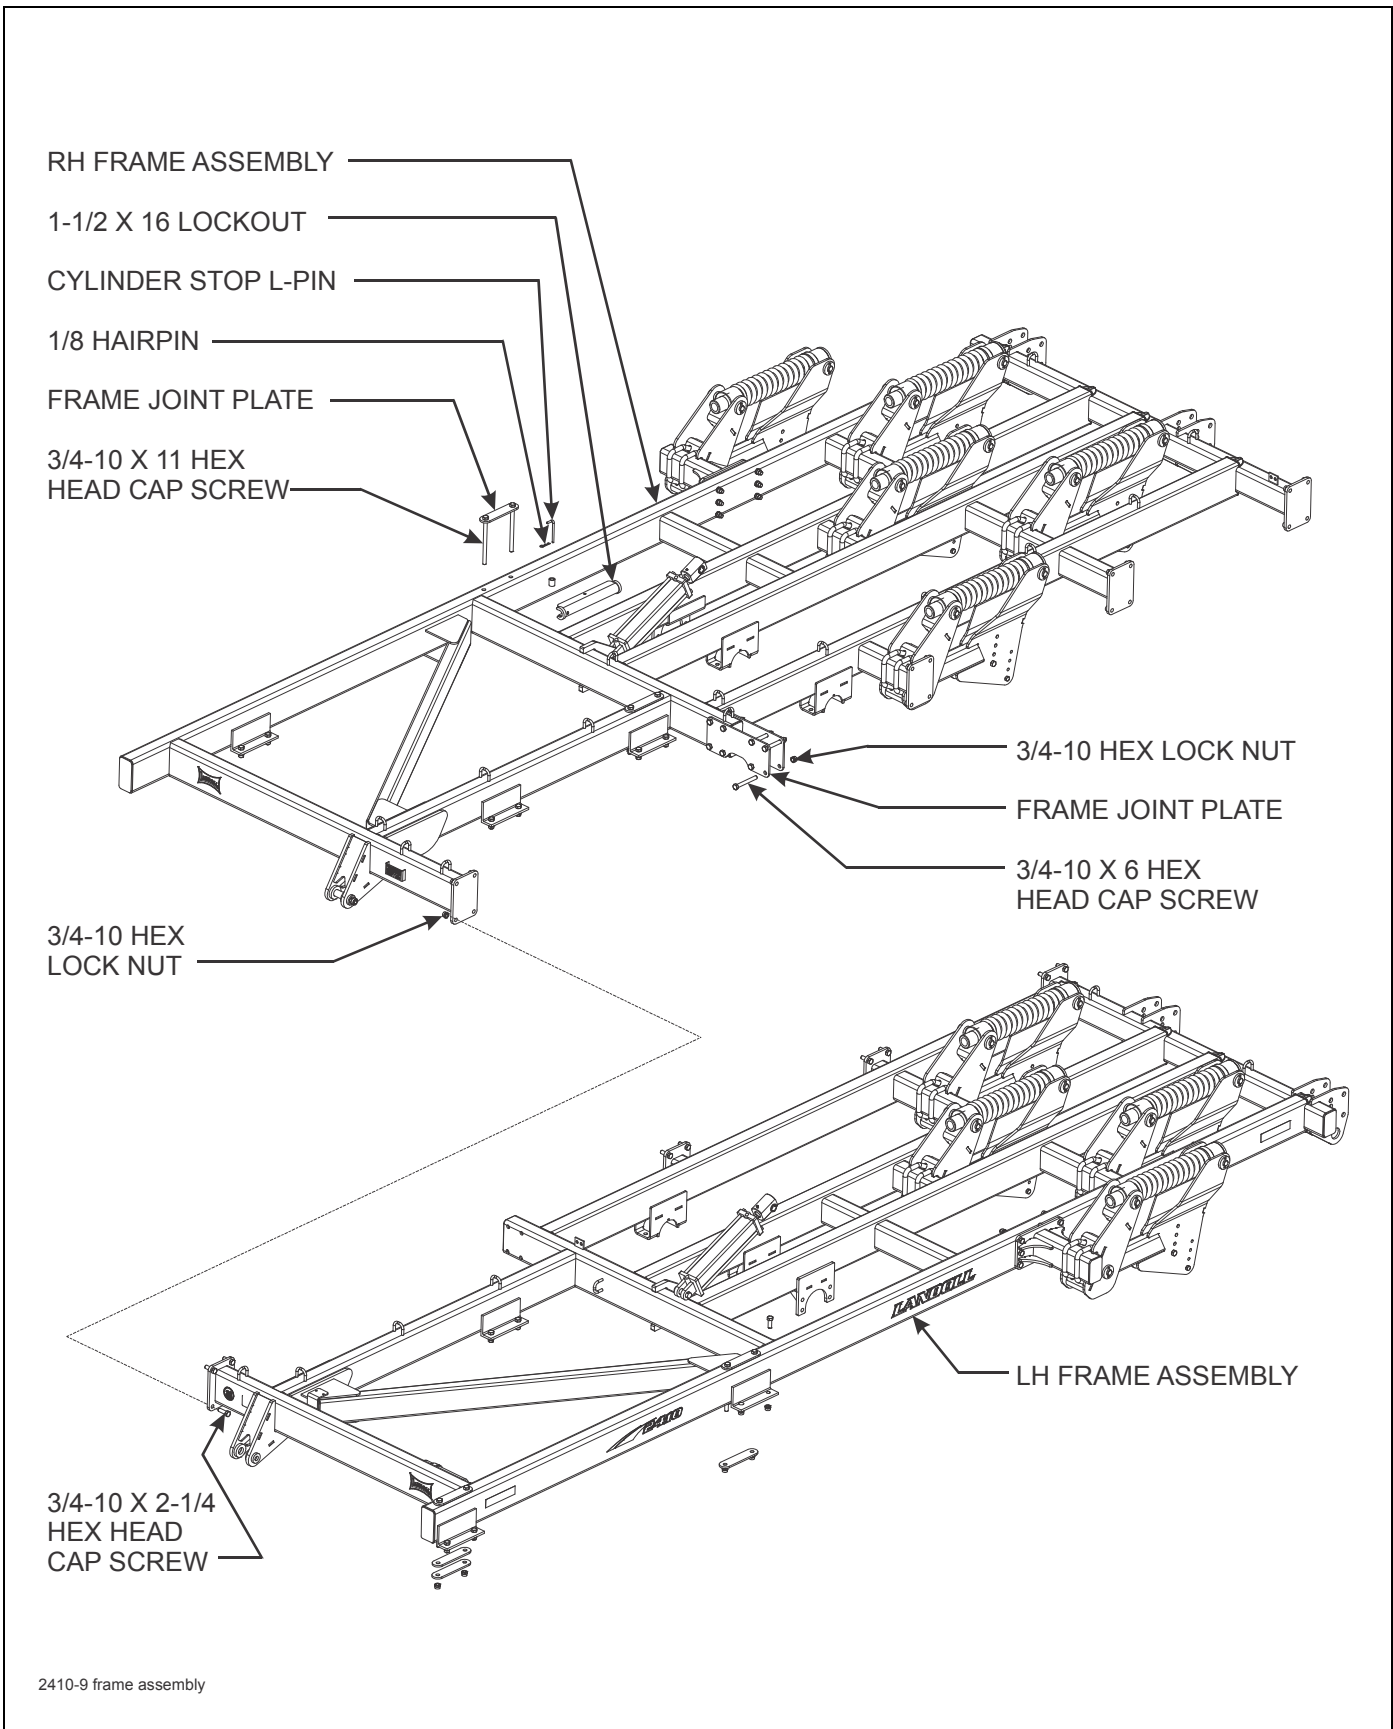

Figure 3-1: Frame Assembly
1. Place both frame halves on stands approximately 36" high. The assembly area should be a large level area of sufficient size to accommodate the Weatherproofer I when fully assembled (See **Figure 3-1.**)